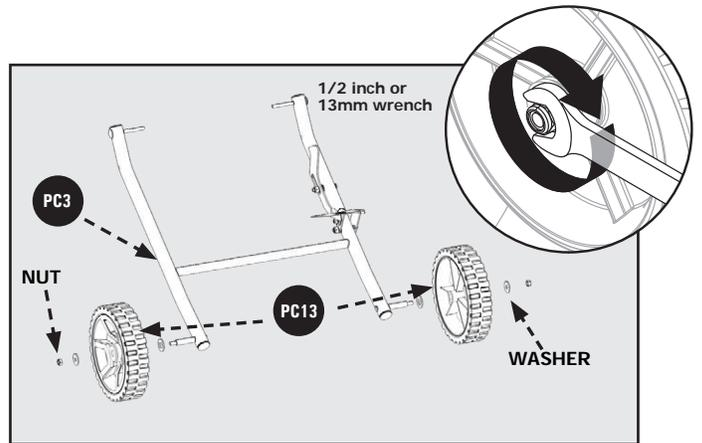
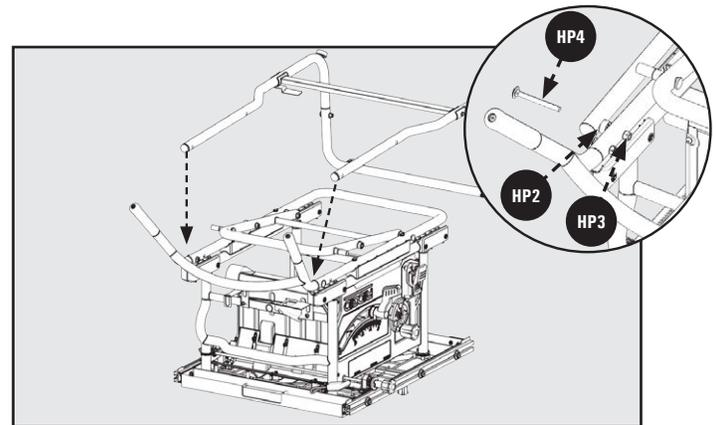
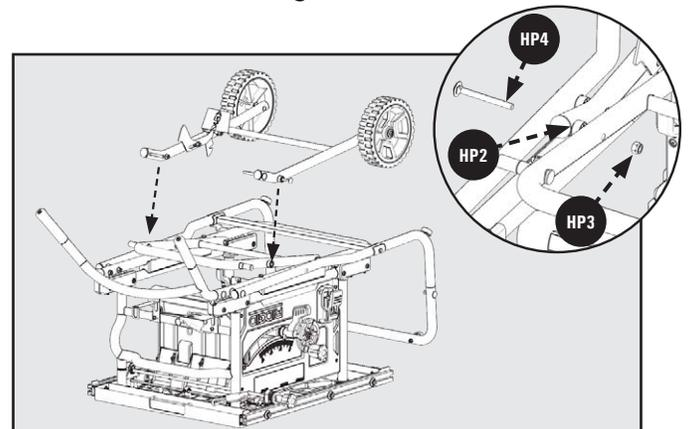

Figure 2
Figure 7
Figure 8
1. First remove Nut and outer Washer on each side of the Pedal Assembly (PC3). Then attach the Wheels and place the Washer and Nut back on each side, as shown in Figure 2. Be sure not to over-tighten the Nut.
6. Attach Leg Assembly to the Upper Leg Assembly. Insert Plastic Spacer (HP2) between Legs and secure with M8 x 75mm Carriage Screw (HP4) and M8 Locknut (HP3). See Figure 7.
7. Install the Wheel Assembly from Figure 2 to Leg Assembly installed in Figure 7. Insert Plastic Spacer (HP2) between Legs and secure with M8 x 75mm Carriage Screw (HP4) and M8 Locknut (HP3). See Figure 8.